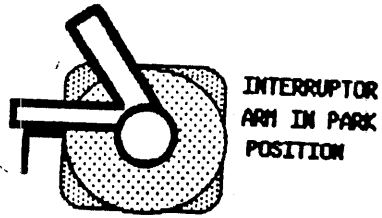

FIGURE 1
- (1) Remove the Cover and then the HDA assembly from the Profile.
- (2) Remove the Analog PCB from the HDA.
- (3) Turn the HDA upside down in front of you. Locate the brake mechanism as shown in figure 1. Insert the flat gauge between the Solenoid Body and the Plunger Plate as shown in figure 1.
(Fig.1)
- (1) Remove the cover from the Profile.
- (2) Position the Profile so that the interruptor arm on the HDA is in front of you.
- (3) On the Controller PCB remove the system Z8 with masked ROM, and install a piggyback Debug Z-8 into its socket.
- (4) Turn on the Profile
**Observe:** That after approximately 20 seconds the HDA interrupter arm will move from Park position to track 0 position as shown in figures 1 and 2.